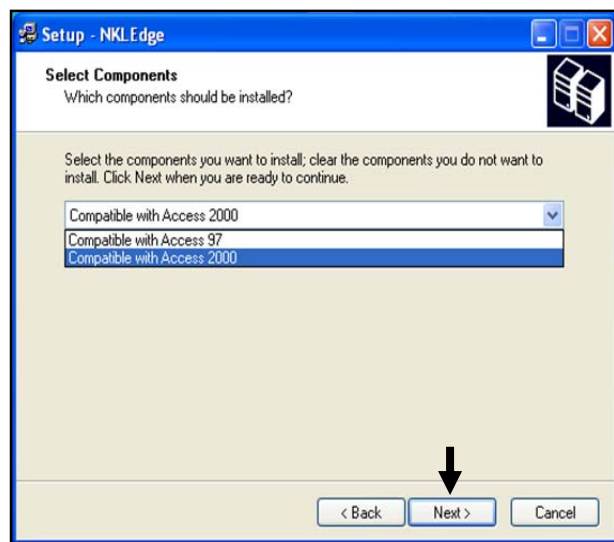

Fig 3.7
- 7) On the next screen (Fig 3.7), select which version (97 or 2000) of Microsoft Access that you would like Edge software to be compatible with. If you are unsure, or if Microsoft Access is not installed on your PC, select Access 97. Select **Next** when finished.